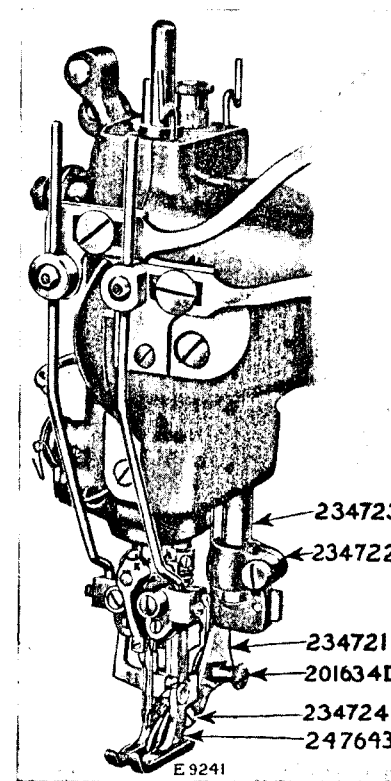
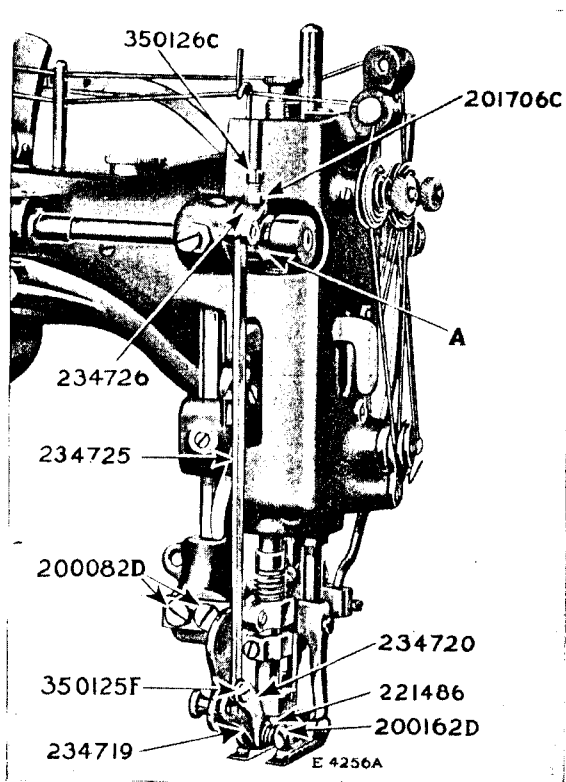
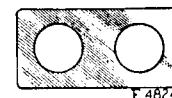

Fig. 19
Fig. 20
Fig. 21
1. Remove the regular Presser Foot and Presser Bar Guide from the machine and fasten the Presser Bar Guide and Support 234723, Fig. 19, and Presser Foot 247643, Fig. 19, in position on the machine as shown in Fig. 19.
3. Place Picot Edge Cutting Blade Arm Bracket 234722, Fig. 19, in position on Presser Bar Guide 234723, Fig. 19.
5. Place the Attachment (with Thumb Nut 201634D, Fig. 19, at the back end of slot) in position by inserting the Knives in between the Presser Foot Shoes, and fasten the Attachment on the Arm Bracket 234722, Fig. 19, with the two screws 200082D, Fig. 20.
6. Loosen the Pinch Screw in the Arm Bracket and raise the Attachment on the Presser Bar Guide until the centre of the Knife Fulcrum Stud 234724, Fig. 19, is $\frac{7}{16}$ " above the top of the Throat Plate. Place a scale or straight edge across Attachment Arm 234721, Fig. 19, from front to back, and line up parallel with the presser foot, the cutting edges of the knives to be in line with the centre of the Piercer, then tighten the Pinch Screw.
7. Remove the Set Screw in the Rock Shaft Collar (A, Fig. 20).
8. Place the Operating Lever 234726, Fig. 20, in position on the Rock Shaft Collar (A), using Screw 350126c, Fig. 20, in place of Set Screw and Check Nut 201706c, Fig. 20, to hold the Lever and Rock Shaft Collar in position.
10. Fasten the Operating Lever with the Screw and Nut, using care to have the point of the upper Knife Blade 234720, Fig. 20, just above the Throat Plate.
11. Loosen the Thumb Nut 201634D, Fig. 19, and pull it forward until the point of the lower Knife Blade 234719, Fig. 20, rests on the Throat Plate, then tighten the Thumb Nut. The point of the knife should be just back of the needle hole.
The knives should not cut into the first bar back of the needles as this bar is required to hold the fabric in forming the hemstitch. If the knives cut into the first bar, which may occur when using a long stitch, there are two shims 234735 (Fig. 21) which have been provided to insert between 234721 and 234722 (Fig. 19) to position the knives further back so that they will cut the second bar only.
13. When it is desired to do straight hemstitching with the Attachment in place, loosen Thumb Nut 201634D, Fig. 19, and push it to the back end of the slot, then tighten it. This will raise the lower knife so as to permit the fabric to pass under it.
Remove the Cap Screw 200162D, Fig. 20, together with Spring 221486, Fig. 20, and Hinge Screw 350125F, Fig. 20, push back the knife blade Hinge Stud 234724, Fig. 19; both knife blades can then be easily removed or replaced.